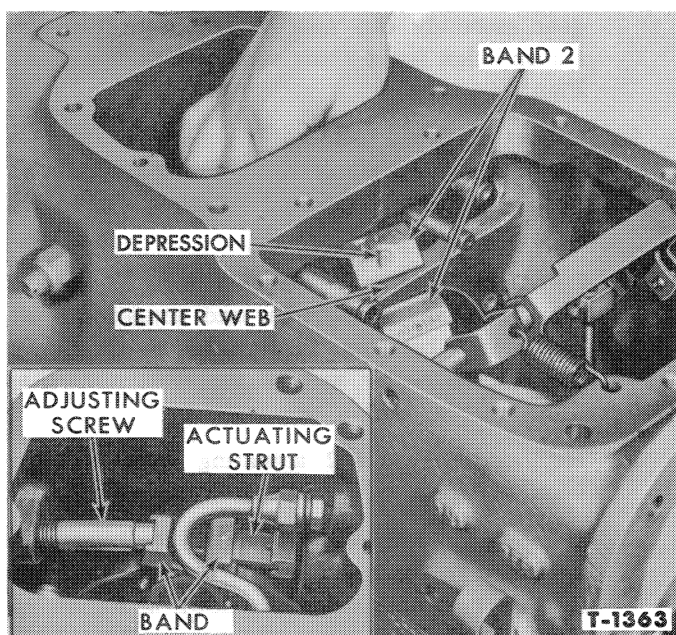

Figure 95—Removing Bands 1 and 2
14. Loosen the No. 1 band adjusting screw, compress the band while holding the actuating strut, shown in the insert, Figure 95, and remove the band and strut from the case.
15. Compress No. 2 band sufficiently to loosen and remove the adjusting strut and actuating strut. Now, No. 2 band can be removed by rotating it around the center web of the transmission as shown in Figure 95.